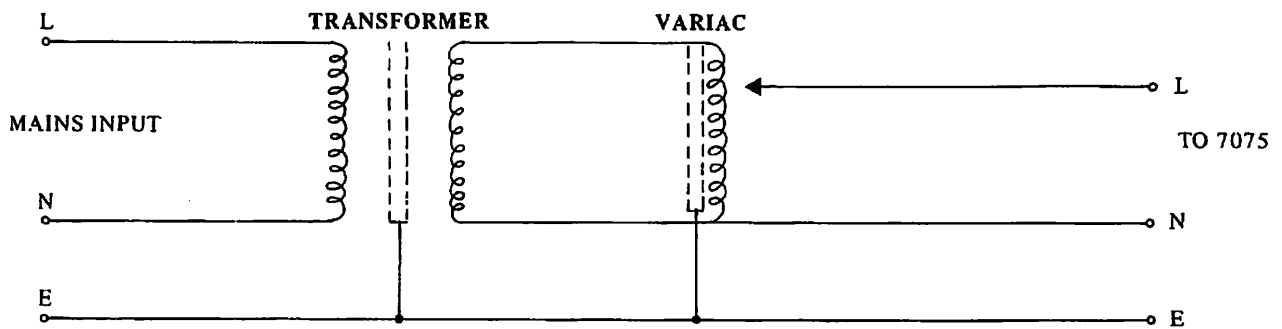

Fig 8.1
1. Connect the 7075 to the mains isolating transformer, as shown in Fig 8.1